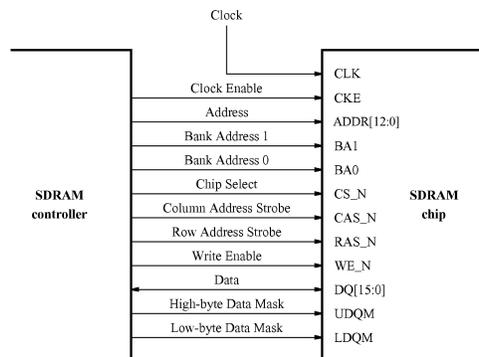

Figure 2. The SDRAM signals.
The SDRAM chip on the DE1-SoC board has a capacity of 512 Mbits (64 Mbytes). Each chip is organized as 8M x 16 bits x 4 banks. The signals needed to communicate with a chip are shown in Figure 2. All of the signals, except the clock, can be provided by the SDRAM Controller that can be generated by using the Platform Designer tool. The clock signal is provided separately. It has to meet the clock-skew requirements as explained in section 7. Note that some signals are active low, which is denoted by the suffix N.
The Platform Designer tool generates an HDL file for the system, which can then be instantiated in a VHDL file. The augmented VHDL entity generated by the Platform Designer tool is in the file *nios_system.vhd* in the *nios_system\synthesis* directory of the project. Figure 8 depicts the portion of the code that defines the input and output signals for the entity *nios_system*. As in our initial system that we developed in the introductory tutorial, the 8-bit vector that is the input to the parallel port *Switches* is called *switches_export*. The 8-bit output vector is called *leds_export*. The clock and reset signals are called *clk_clk* and *reset_reset_n*, respectively. A new entity, called *sdram*, is included. It involves the signals indicated in Figure 2. For example, the address lines are referred to as the **output** vector *sdram_wire_addr[12:0]*. The data lines are referred to as the **inout** vector *sdram_wire_dq[15:0]*. This is a vector of the **inout** type because the data lines are bidirectional.
A first attempt at creating the new entity is presented in Figure 9. The input and output ports of the entity use the pin names for the 50-MHz clock, *CLOCK_50*, pushbutton switches, *KEY*, toggle switches, *SW*, and red LEDs, *LEDR*, as used in our original design. They also use the pin names *DRAM_CLK*, *DRAM_CKE*, *DRAM_ADDR*, *DRAM_BA*, *DRAM_CS_N*, *DRAM_CAS_N*, *DRAM_RAS_N*, *DRAM_WE_N*, *DRAM_DQ*, *DRAM_UDQM*, and *DRAM_LDQM*, which correspond to the SDRAM signals indicated in Figure 2. These names are the standard ones included in the file called *DE1_SoC.qsf*, which can be found on Intel's DE1-SoC web page at <https://www.altera.com/support/training/university/del-soc.html>
--          SDRAM ports correspond to the signals in Figure 2; their names are those